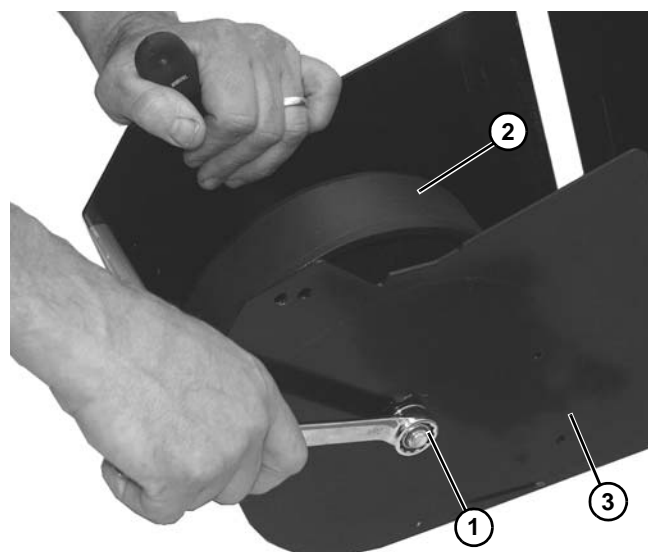

Figure 149
3. Use two wrenches to remove nut (Figure 149, item 1) on bolt securing wheel (Figure 149, item 2) onto weighted take up assembly housing (Figure 149, item 3).